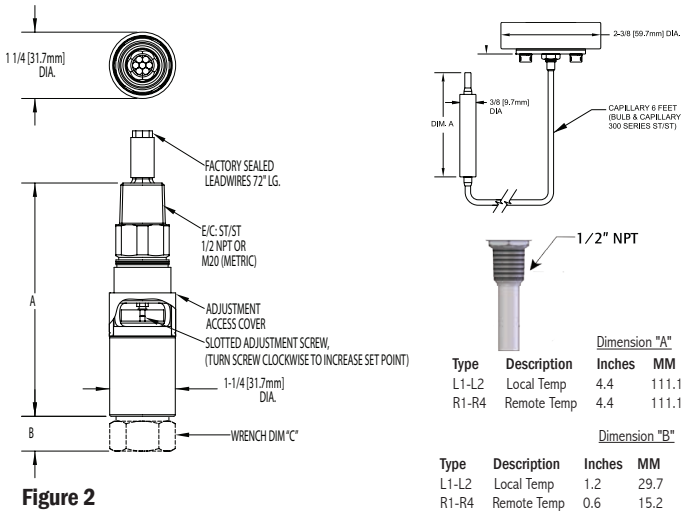

Figure 2
4. Insert screwdriver into adjustment slot and turn clockwise to **increase** setting or counter clockwise to **decrease** setting. (See Figure 2)